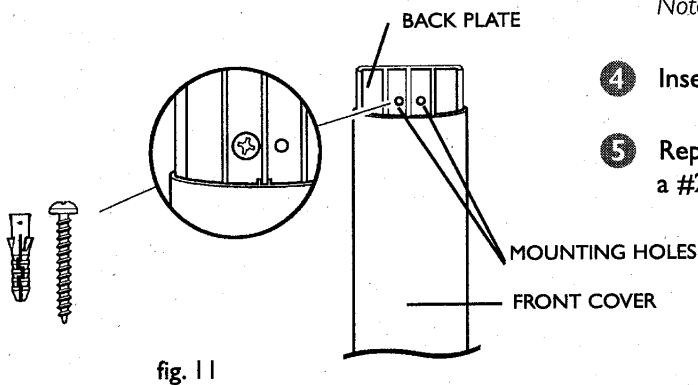

fig. 11
- 3 Remove the Back Plate, and using a 15/64" wood drill bit, drill the holes. (fig. 11)